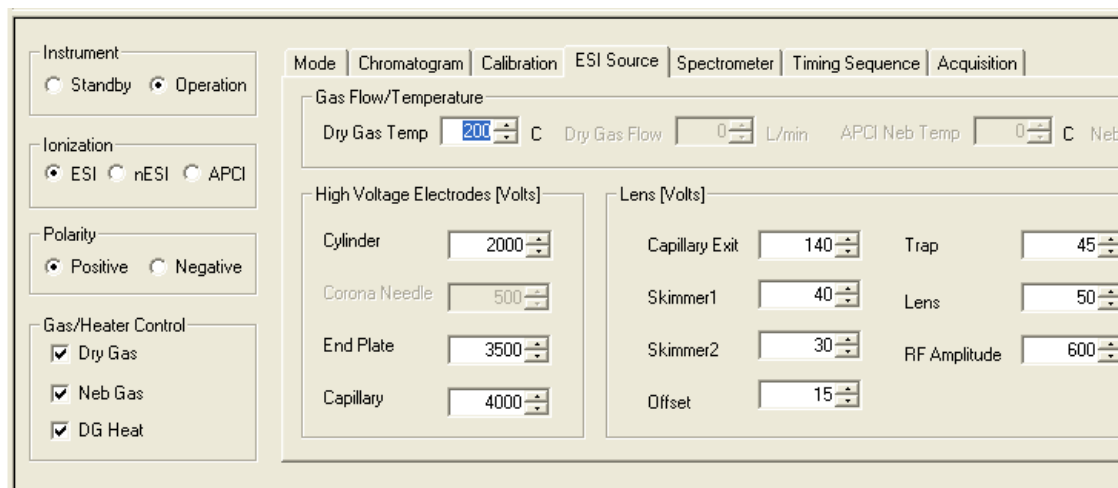

Figure 3-6 Gas/Heater Group and ESI Source Tab
1. Click the **Dry Gas** and **Neb Gas** checkboxes in the Gas/Heater Control group (Figure 3-6), if they are not already on.